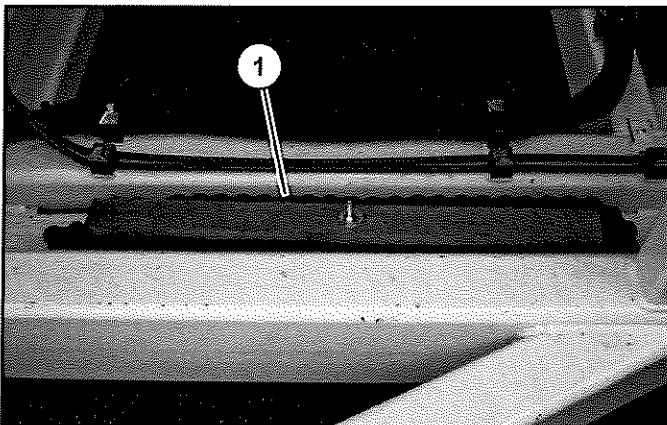

Figure 22
11. The power travel chain (Item 1) (Figure 22) is stored on the undercarriage for transport. Remove for installation.